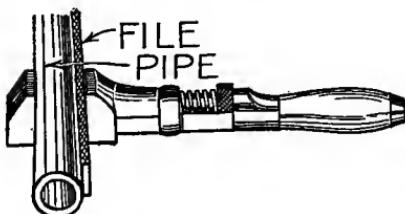

FIG. 158.—A Small Pipe-Wrench.
**A Small Pipe-Wrench**, by slipping a file between the piece of pipe to be turned and one jaw of the wrench (Fig. 158).